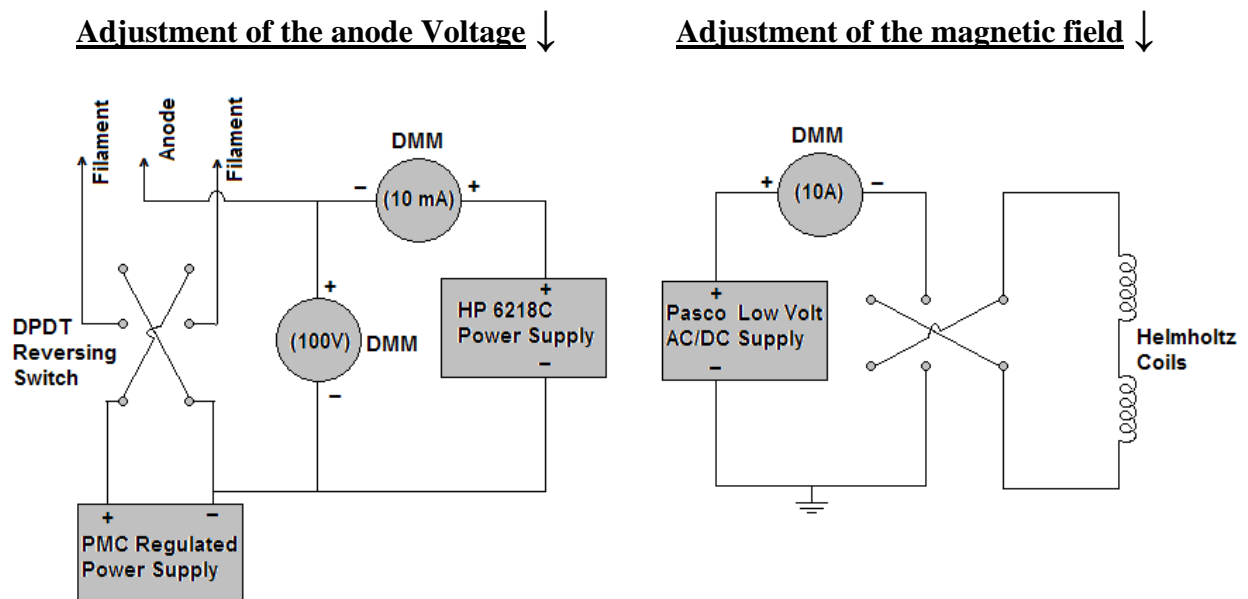

Figure 5
4. If not already done for you, wire up the circuits shown in Figure 5. The current from the Pasco low voltage power supplies the Helmholtz coils, and it can be adjusted by the controls on the front. The direction of the current should be such that the field from the coils opposes the earth's magnetic field. A reversing switch is provided for changing the direction of the current. Before turning anything on, **have the circuit checked by an instructor.**